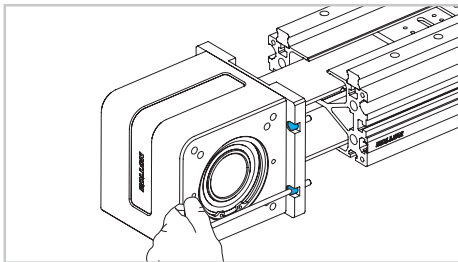

Fig. 15
- 16) Separate the driving head from the profile untightening the 4 screws (Fig. 15)